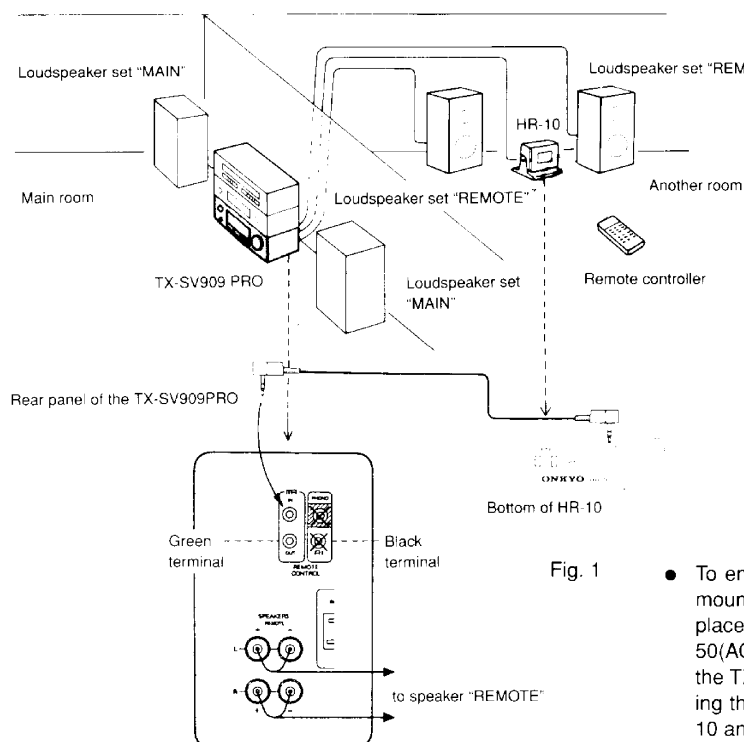

Fig. 1
- When using only the HR-10 (option) to control TX-SV909PRO in the main room from another room, connect them as shown in Fig. 1. In this case, ONKYO CD Player and Cassette Tape Deck bearing the **RI** mark connected to the TX-SV909PRO can be controlled.